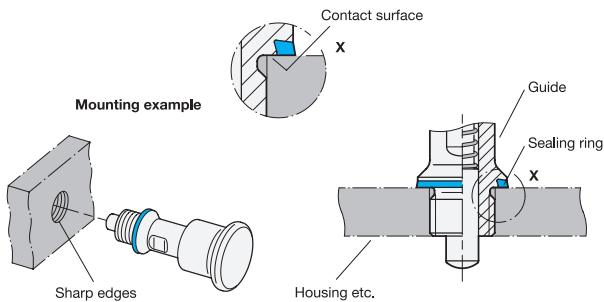

Fig. 2
- The mounting hole must be made such that the metal recess within the sealing ring rests as fully as possible against the underlying surface to enable tensioning against the block (metallic stop) (tolerance of $+0.05/+0.2$). The sealing ring must rest fully against the underlying surface (Fig. 2).